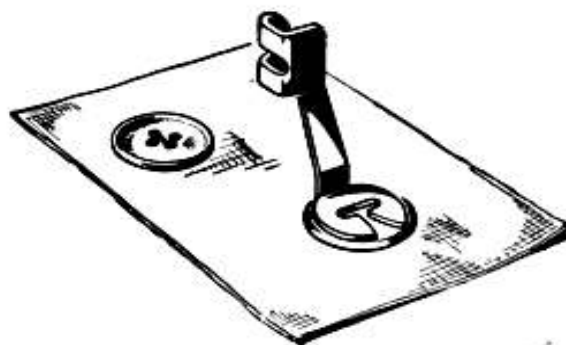

Fig. 42
*Presser foot*: button sewing foot (Fig. 42).